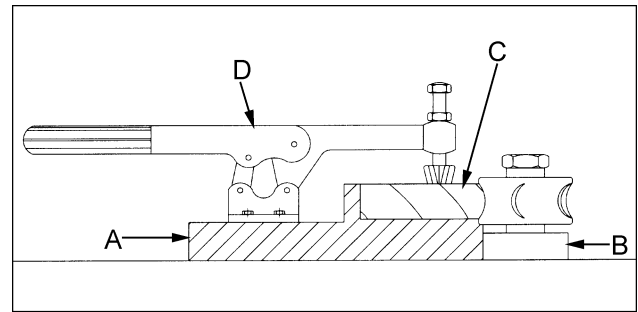

Figure 24
1. Prepare the jig (A, Figure 24) to accommodate your original workpiece.
2. Place the jig against the table ring guide shoulder (B, Figure 24).
3. Fasten the new workpiece (C, Figure 24) on the jig with the clamp (D, Figure 24) and push the assembly past the cutter.